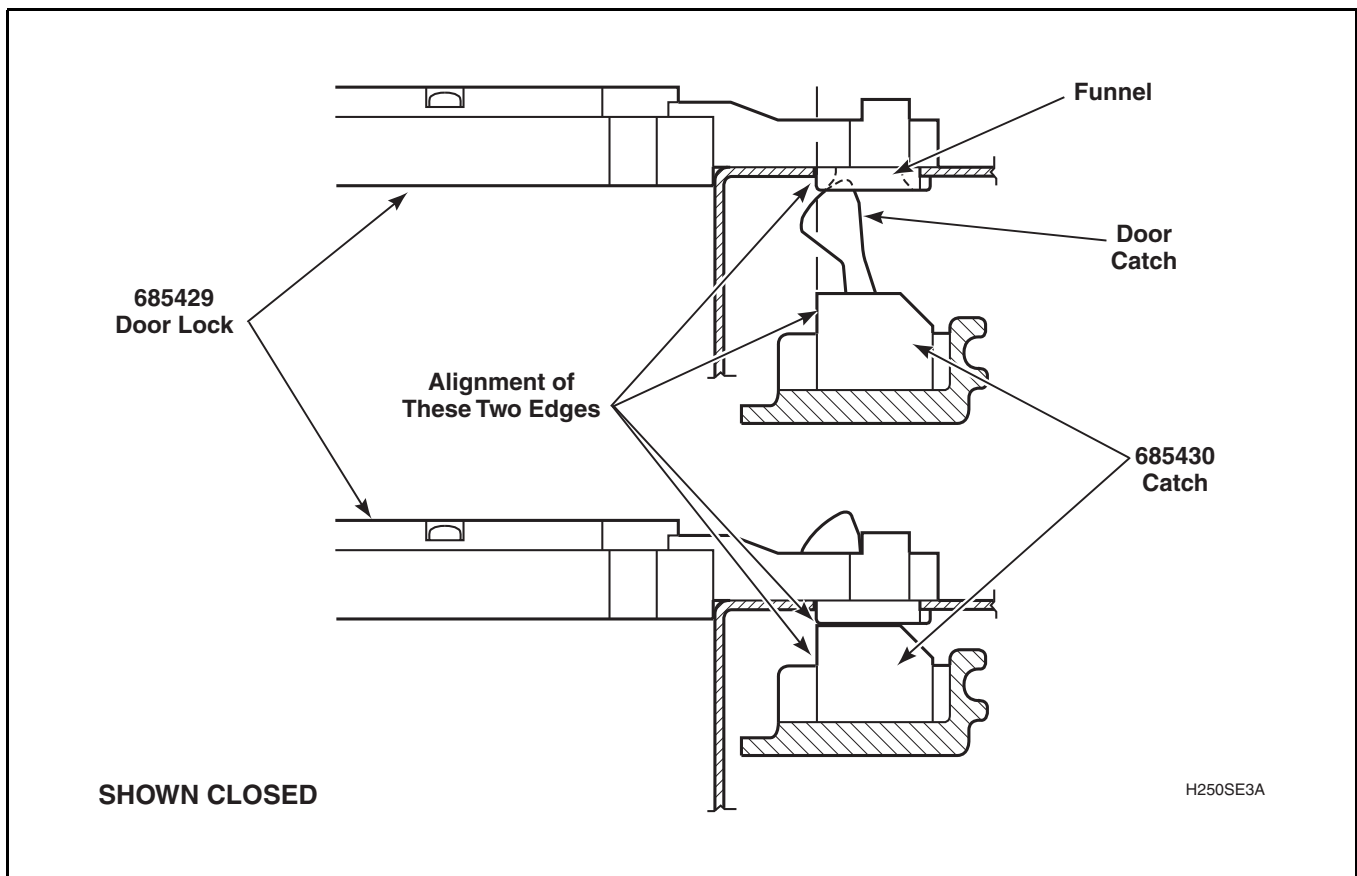

Figure 47
- d. Adjust door catch so the outside edge is aligned with the edge of the latch. Refer to *Figure 47*.
- e. Visually check that the door catch properly engages the funnel of the door latch/switch assembly. Refer to *Figure 47*.